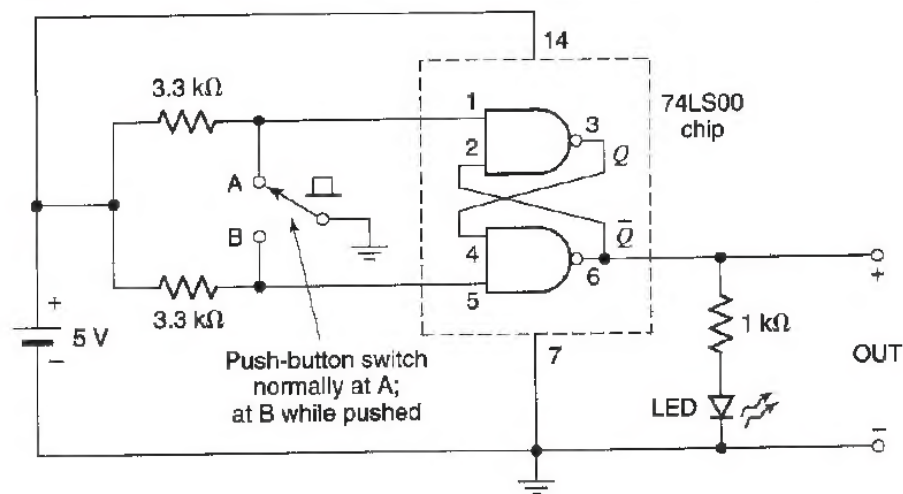

Fig. 3
3. **DEBOUNCE CLOCK switch circuit:** Voltages generated by throwing switches that can bounce can be "cleaned," or "debounced," by using an SR latch, as shown in Fig. 3. This circuit is similar to one used in Experiment 14, and can be understood through that material. The switch is normally at A, making the voltage there 0 and the voltage at B high. When the switch is pressed, it momentarily touches B and then bounces. The first of the down transitions in the voltage at B sets the flip-flop, and further ups and downs in that output do not change the flip-flop's state. Similarly, when the switch is released, it touches A and then bounces; the first of the down transitions of the voltage at A resets the flip-flop. Thus, the output voltage of the circuit is a clean 1 or 0 and is oblivious to switch bouncing. This voltage can be used to drive other digital circuits. To conclude, then, the output of this circuit is normally 0 and becomes "clean" 1 for as long as the switch is pressed.